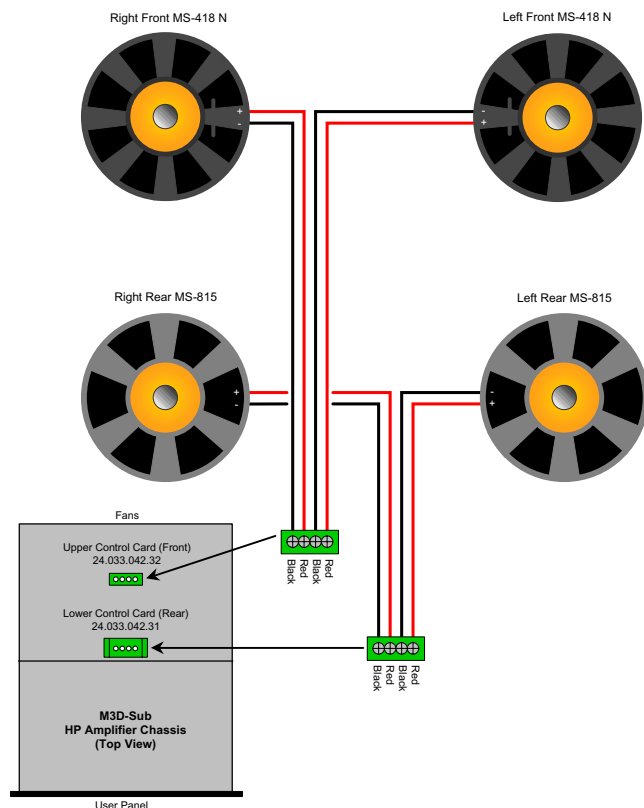

Figure 13. M3D-Sub internal wiring harness diagram
Each front 4 ohm, 18-inch, low-frequency driver is powered by one channel of the HP-4/M3D-Sub amplifier; also, each rear 8 ohm, 15-inch low-frequency driver is powered by one amplifier channel. Figure 13 shows how the drivers are connected to the amplifier in the M3D-Sub.
1. Gently slide the amplifier partially back into the M3D and connect the 2 speaker connectors. Make sure they are connected into the right connector. Please refer to Figure 12 and Figure 13.